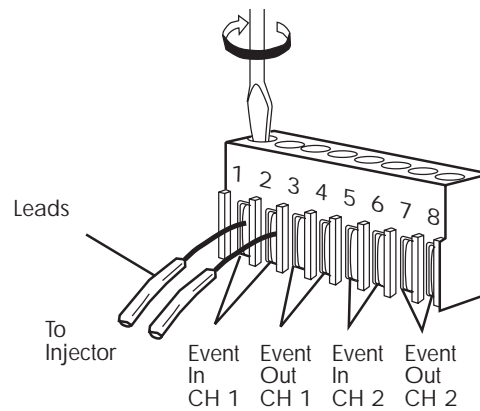

Figure 2-4 Connecting Event Cables
3. Insert the two straight leads at the other end of Event In/Out cable into the terminal strip positions (see the “Terminal strip positions” discussion above for additional information). Tighten the screws with a small screwdriver (Figure 2-4).